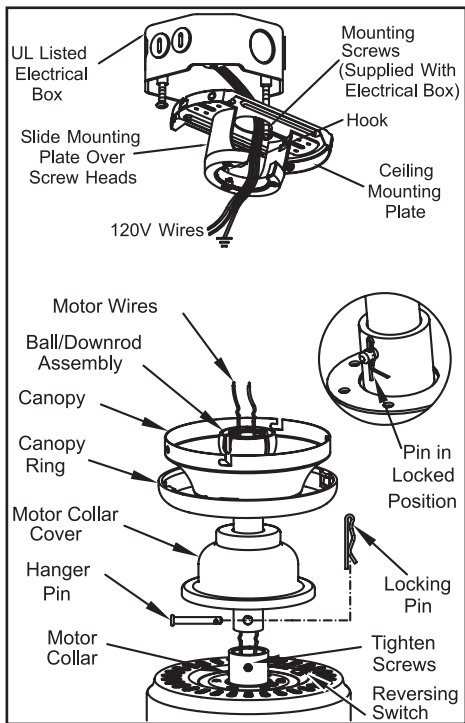

Figure 7
3. Route the wires exiting the top of the fan motor through the decorative motor collar cover then the canopy ring. Make sure the slot openings are on top. Route the wires through the canopy and then through the ball/downrod assembly (Figure 7).
5. Align the holes at the bottom of the downrod with the holes in the collar on top of the motor housing (Figure 7). Carefully insert the hanger pin through the holes in the collar and downrod. Be careful not to jam the hanger pin against
the wiring inside the downrod. Insert the locking pin through the hole near the end of the bolt until it snaps into its locked position, as noted in the circle inset of Figure 7.
1. Pass the 120-volt supply wires through the center hole in the ceiling mounting plate as shown in Figure 7.
2. Install the ceiling mounting plate on the electrical box, by sliding the mounting plate over the two screws provided with the electrical box (Figure 7). If necessary, use leveling washers (not included) between the mounting plate and the electrical box. Note that the flat side of the mounting plate is toward the electrical box (Figure 7).
The fan shipped from the factory with the reversing switch positioned to circulate air downward. If airflow is desired in the opposite direction, turn your fan off and wait for the blades to stop turning, then slide the reversing switch (located at the top of the motor housing, refer to figure 7 on page 5) to opposite position, and turn fan on again. The fan blades will turn in the opposite direction and reverse airflow.